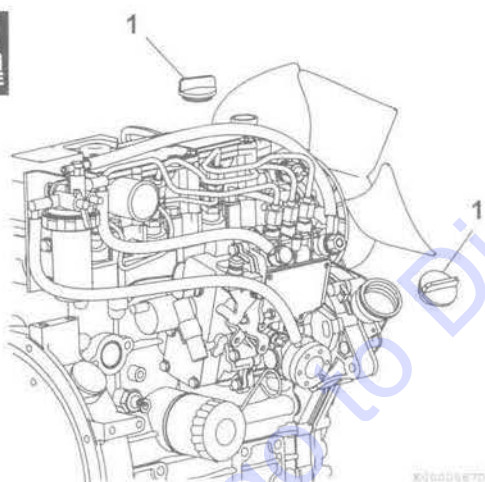

Figure 8
4. Remove one of the oil filler caps (1, **Figure 8**) to vent the engine crankcase and allow the engine oil to drain more easily.